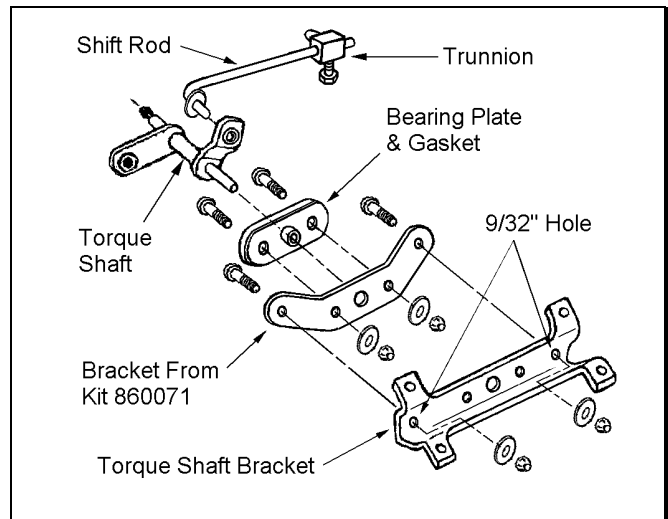

Figure 20
- 5) Attach the bearing plate, with gasket, to the shift relocating bracket. See figure 20.